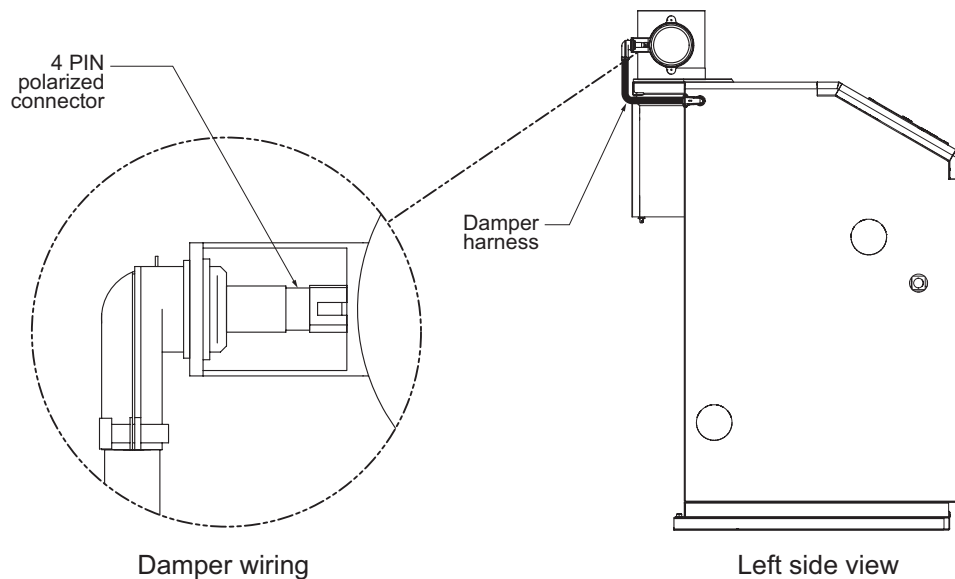

Figure 6.2 (Typical vent system installation and components)
- 10) The vertical section of vent pipe coming off the boiler should be as tall as possible, while still maintaining the proper clearance from the horizontal vent connector to combustibles and the proper pitch called for in (9) above.
- 14) Vent damper installation is mandatory on all KAPPA R series boilers. Install vent damper (see Figure 6.2) as follows: